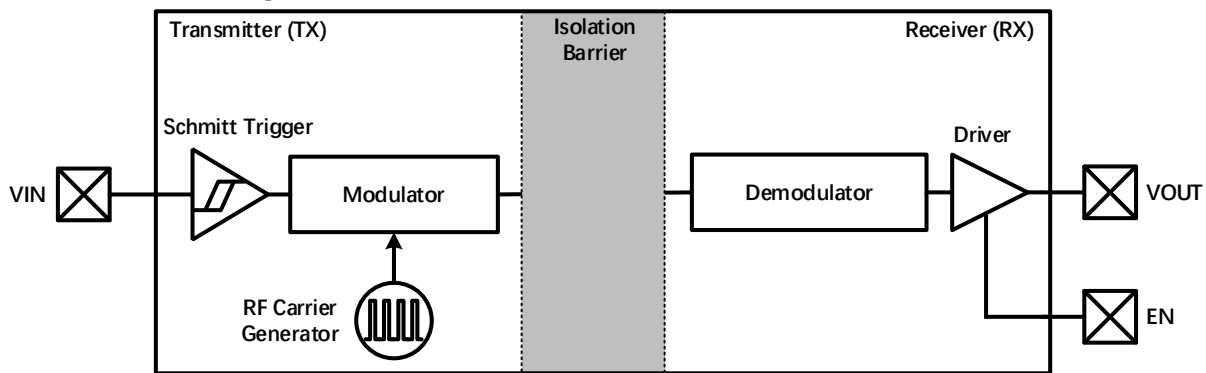
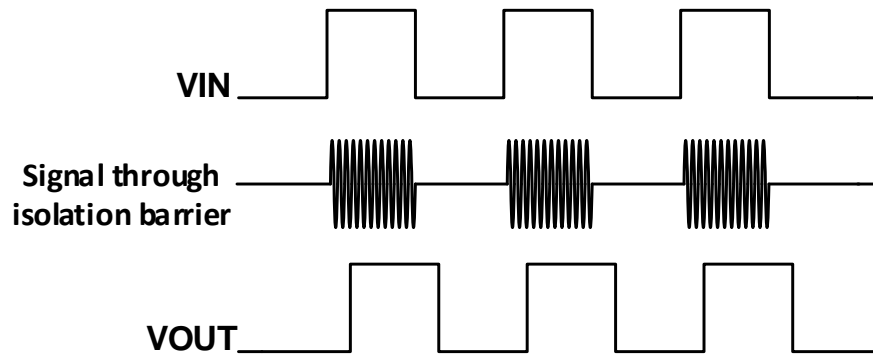

Figure 9-1 Functional Block Diagram of a Single Channel
Figure 9-2 Conceptual Operation Waveforms of a Single Channel
The CA-IS374x family of devices use a simple ON-OFF keying (OOK) modulation scheme to transmit signal across the SiO₂ isolation capacitors that provide a robust insulation between two different voltage domain and act as a high frequency signal path between the input and the output. The transmitter (TX) modulates the input signal onto the carrier frequency, that is, TX delivers high frequency signal across the isolation barrier in one input state and delivers no signal across the barrier in the other input state. Then the receiver rebuilds the input signal according to the detected in-band energy. If the ENx pin is low then the output goes to high impedance state and will be pulled up to V_{DDO} (CA-IS374xH) or pull down to the corresponding GND (CA-IS374xL). This simple architecture offers a robust isolated data path and requires no special considerations or initialization at start-up. The capacitor-based signal path is fully differential to maximize noise immunity, which is also known as common-mode transient immunity. Advanced circuitry techniques are applied for better EMI introduced by the carrier signal and IO switching. The capacitively-coupled architecture provides much higher electromagnetic immunity compared to the inductively-coupled one. And OOK modulation scheme eliminates the missing-pulse error that occurs in the pulse modulation method. A simplified functional block diagram and conceptual operation waveforms of a single channel is shown in Figure 9-1 and Figure 9-2.